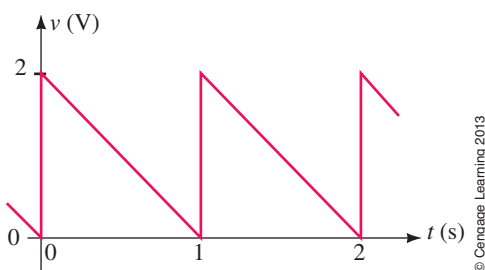

FIGURE 25-50
5. Use calculus to derive the Fourier series for the waveform shown in Figure 25-50.